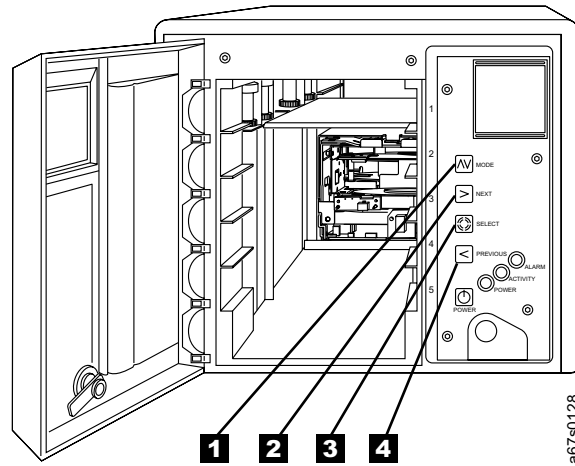

Figure 3. Using the control buttons to determine or change a SCSI ID
1. Repeatedly press the MODE button ( **1** in Figure 3 on page 11) until **SET SCSI** appears on the message display.